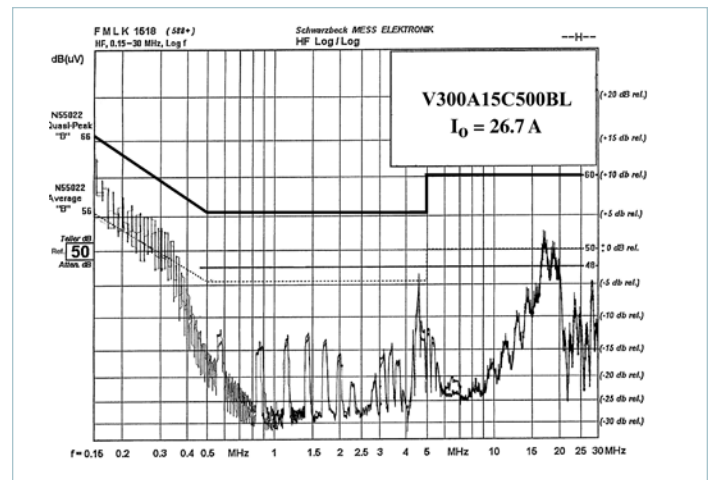
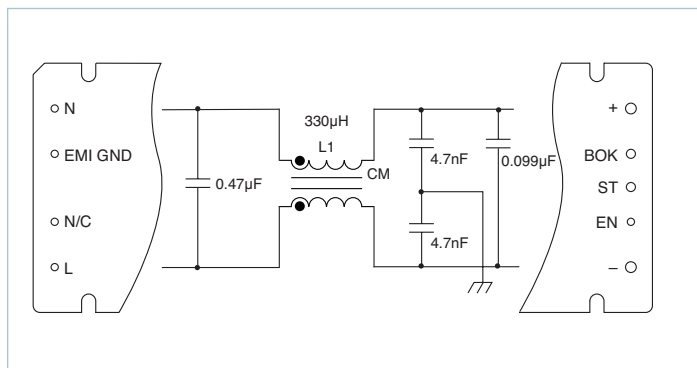

Figure 6 — Typical conducted emissions
Figure 12 — Internal filter
**Filter:** (See Figure 12) An integral input filter consists of a common mode choke and Y rated capacitors (line-ground) plus two X rated capacitors (line-line). This filter configuration provides common mode and differential mode insertion loss in the frequency range between 100kHz and 30MHz as illustrated in Figure 6.